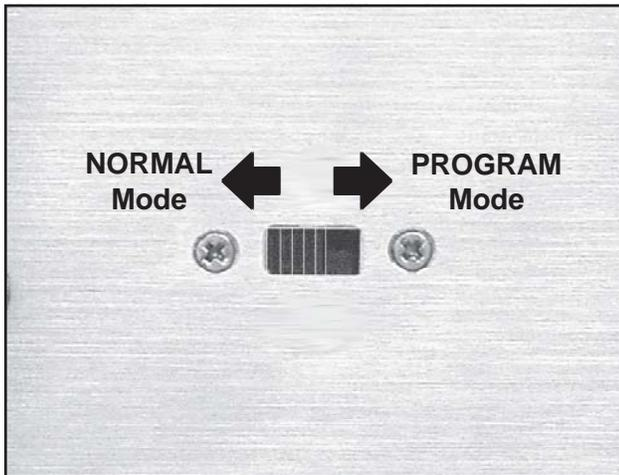

Figure 28. Mode Switch
3. On the rear of the display console, access the Mode switch (*Page 25*) and move the switch to the right (**PROGRAM**) (*Figure 28*).
8. Move the Mode switch (Figure 28) back to the left (**NORMAL**).